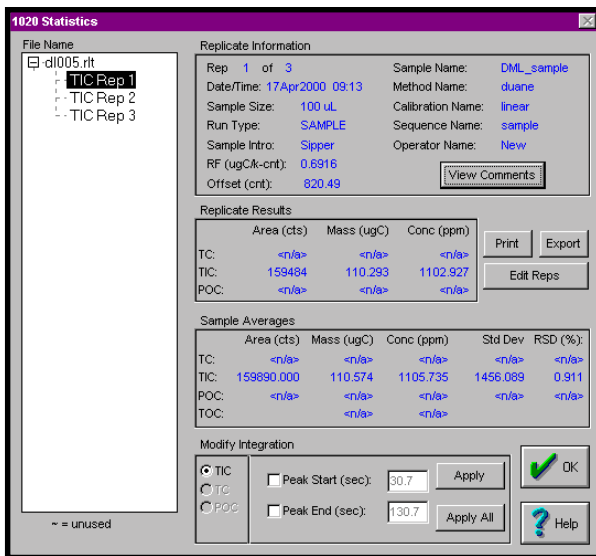

Figure 4.13. TOC Reporter Statistics Screen
The TOC Reporter Statistics Screen allows the operator to view areas, mass, and concentration values; print modified statistics; and export data. See Figure 4.13.
4. Go to the **Analysis** menu and select **Statistics**. This will access the Statistics Screen (Figure 4.13). Click on the **Export** button.